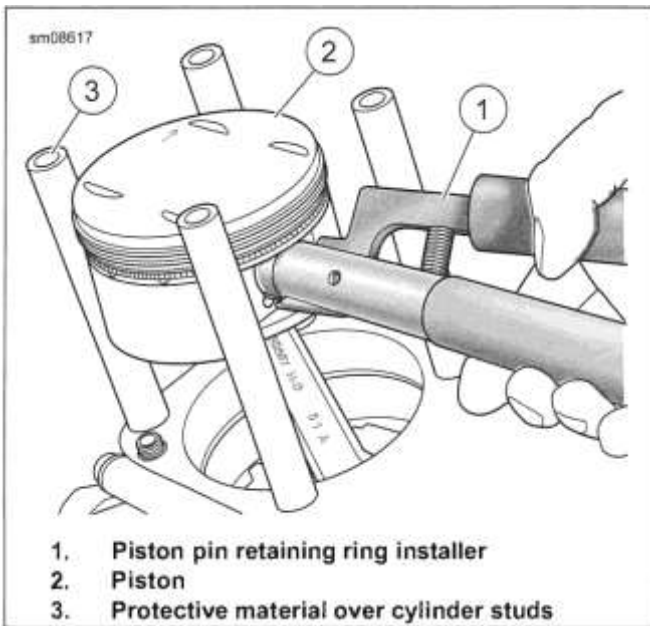

Figure 4-39. Piston Pin Retaining Ring Removal
2. See Figure 4-39. Remove and discard one piston pin retaining ring.